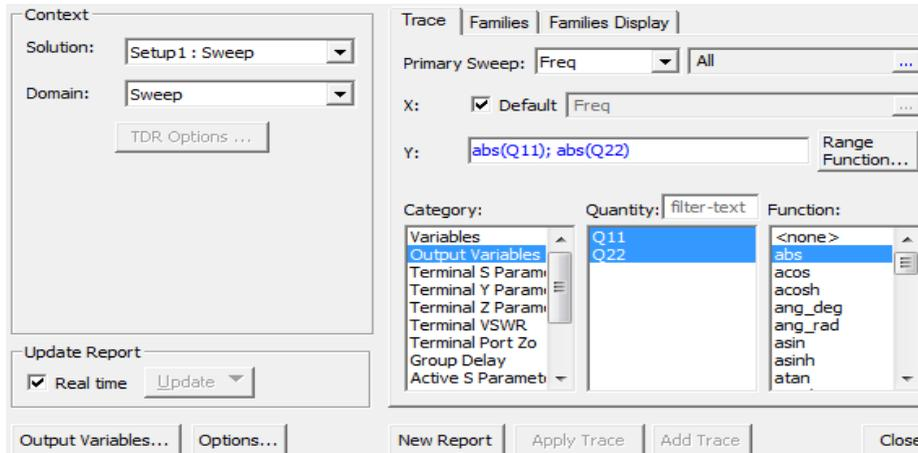

Figure 15. Report dialog box
- 16** Edit the fields in the **Report** dialog box as in Figure 15.